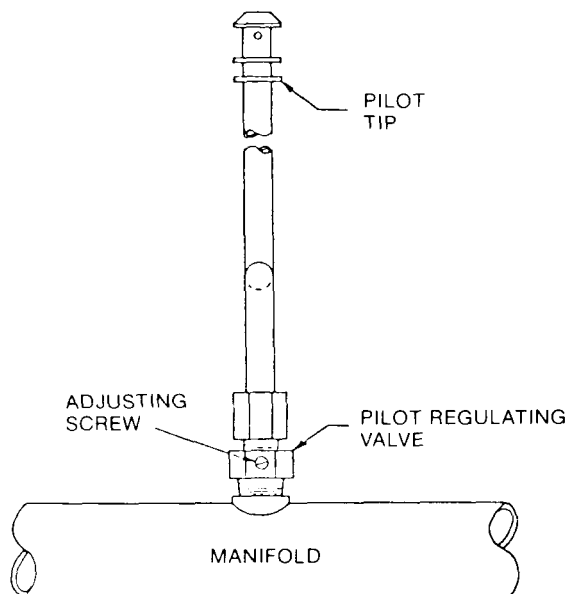

FIGURE 1
3. Light the pilot and adjust the pilot regulating valve (See Figure 1) to give a stable pilot flame.